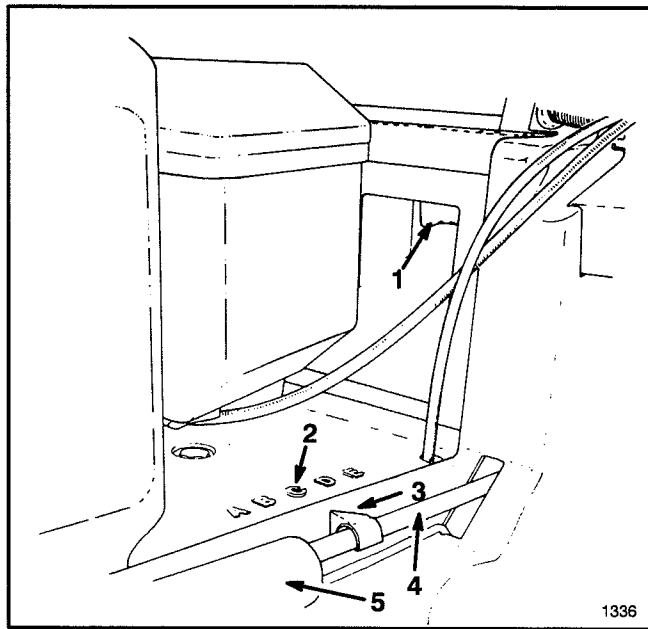

Figure 12
2. Use one or two fingers to squeeze the height-of-cut adjustment lever (Fig. 12).